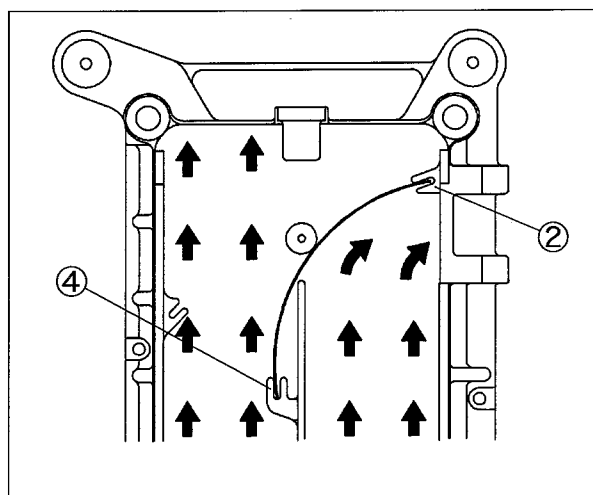

Fig. 7-3
For high speed and less dust during sewing, insert the air deflector ① into the guides ② and ④. (See Fig. 7-3)